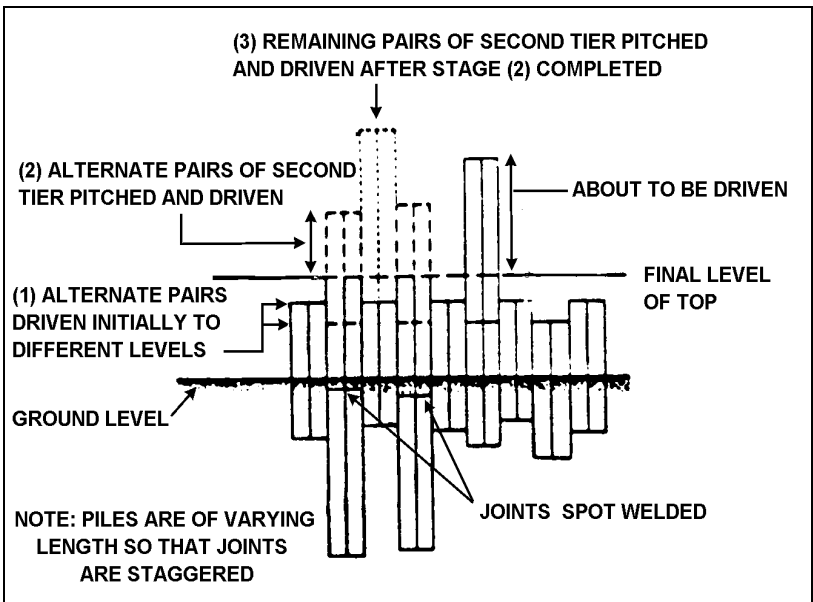

Fig 14-3-7 Sequence of Driving Sheet Piles in Short Lengths
16. To pitch and interlock a pair of piles before driving requires a crane capable of lifting the head of one pile to a height at least twice the length of each pile. If the crane is unable to handle long lengths, or if they are not available, sheet piles can be driven in short lengths as shown in Fig 14-3-7. Alternate pairs are driven to different levels and the second tier is then pitched, the joints being welded. The piles must vary in length so that the joints are staggered.